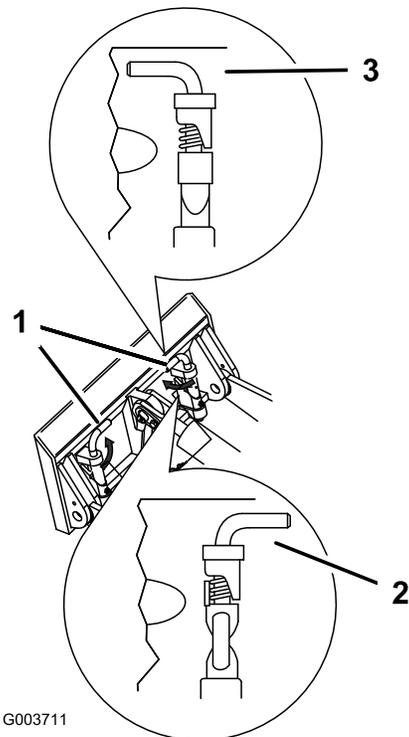

Figure 22
7. Engage the quick attach pins, ensuring that they are fully seated in the mount plate (Figure 22).